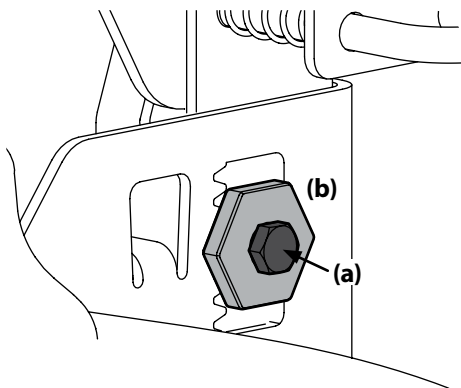

Figure 4-5
- Loosen, but do NOT remove, the hex bolt (a) on the rear left deck hanger link. See Figure 4-5.
- Using a wrench, raise or lower the left side of the deck by turning the adjustment gear (b). See Figure 4-5.